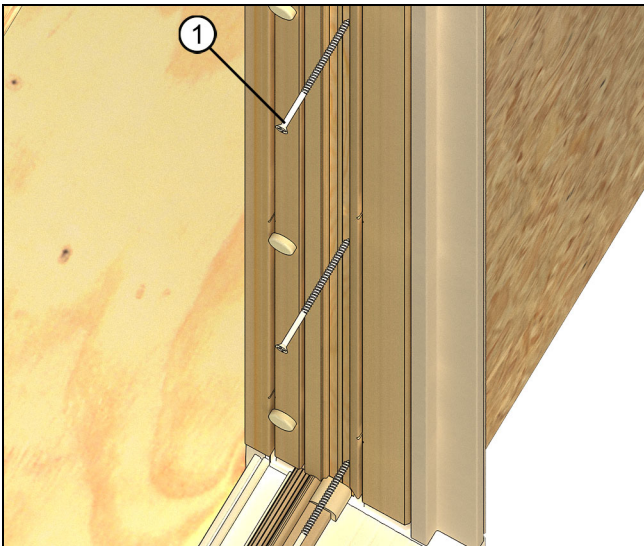

Figure 17
2. Fasten unit to wood buck/rough opening with #8 x 3" wood screws. Screws must be a minimum of 1" from edge of buck. Place the screws 6" from each corner and a maximum of 15" apart, with a minimum of 2 per side. See Figure 17.